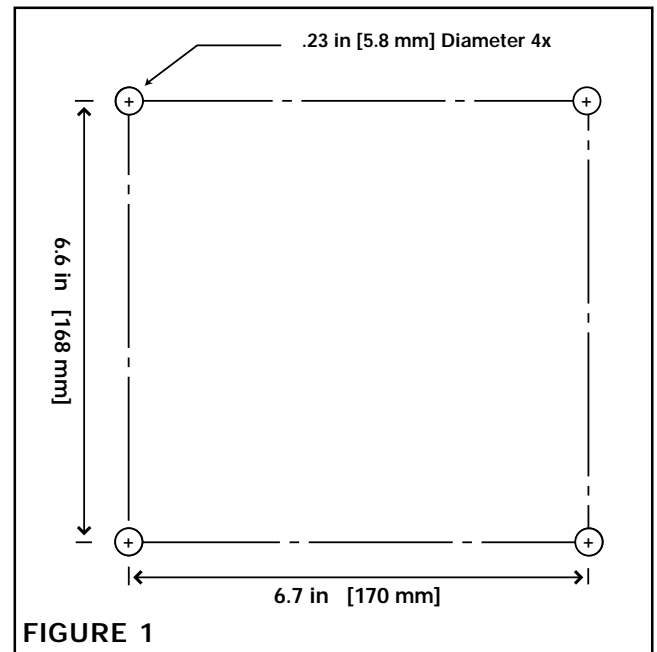

FIGURE 1
2. Mount the TB800 securely using 4 M5 screws. See Figure 1 for mounting hole dimensions.